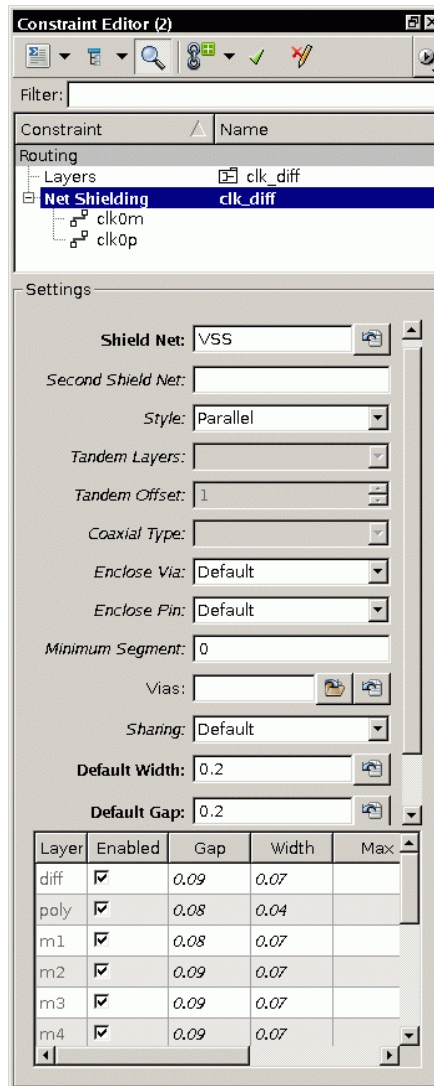

Figure 14 Modifying Shield Constraints in the Constraint Editor Window
- c. Edit **Shield Net**, **Default Width**, and **Default Gap** options as shown in Figure 14.